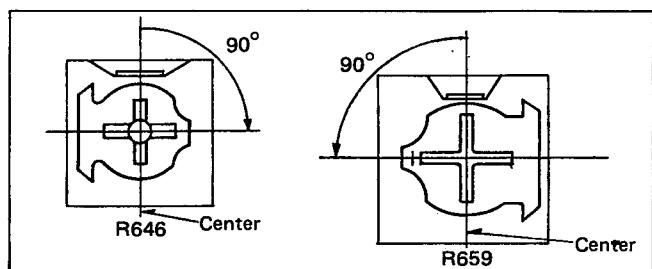

Fig. 36
3) Adjust R-Y Gain (R646) and B-Y (R659) controls shown in Fig. 36.